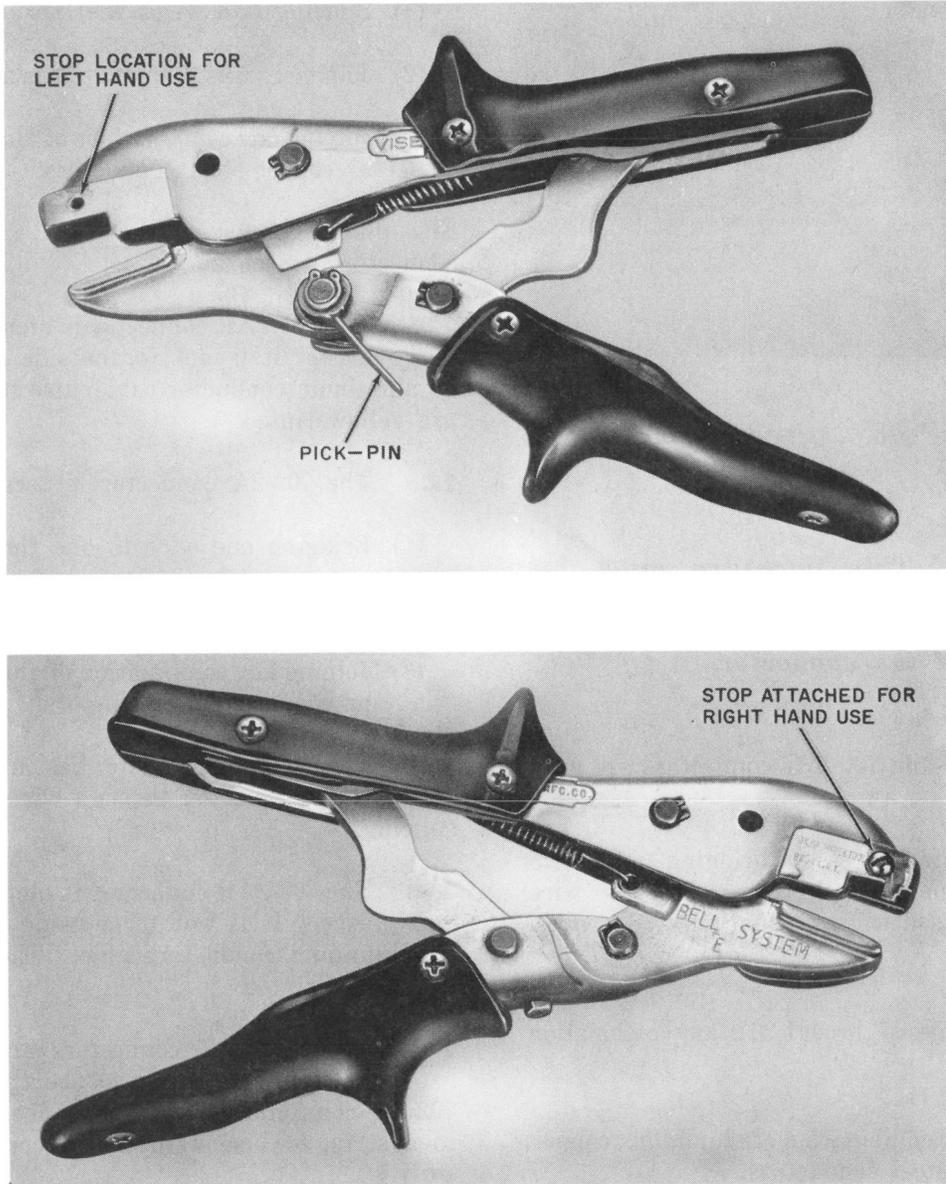

Fig. 3—E Connector Presser
2.10 The E connector presser (Fig. 3) is specially designed for pressing all 700-type connectors. Proper use of this tool assures that good joints will be made under all conditions of conductor size and number as well as temperature.